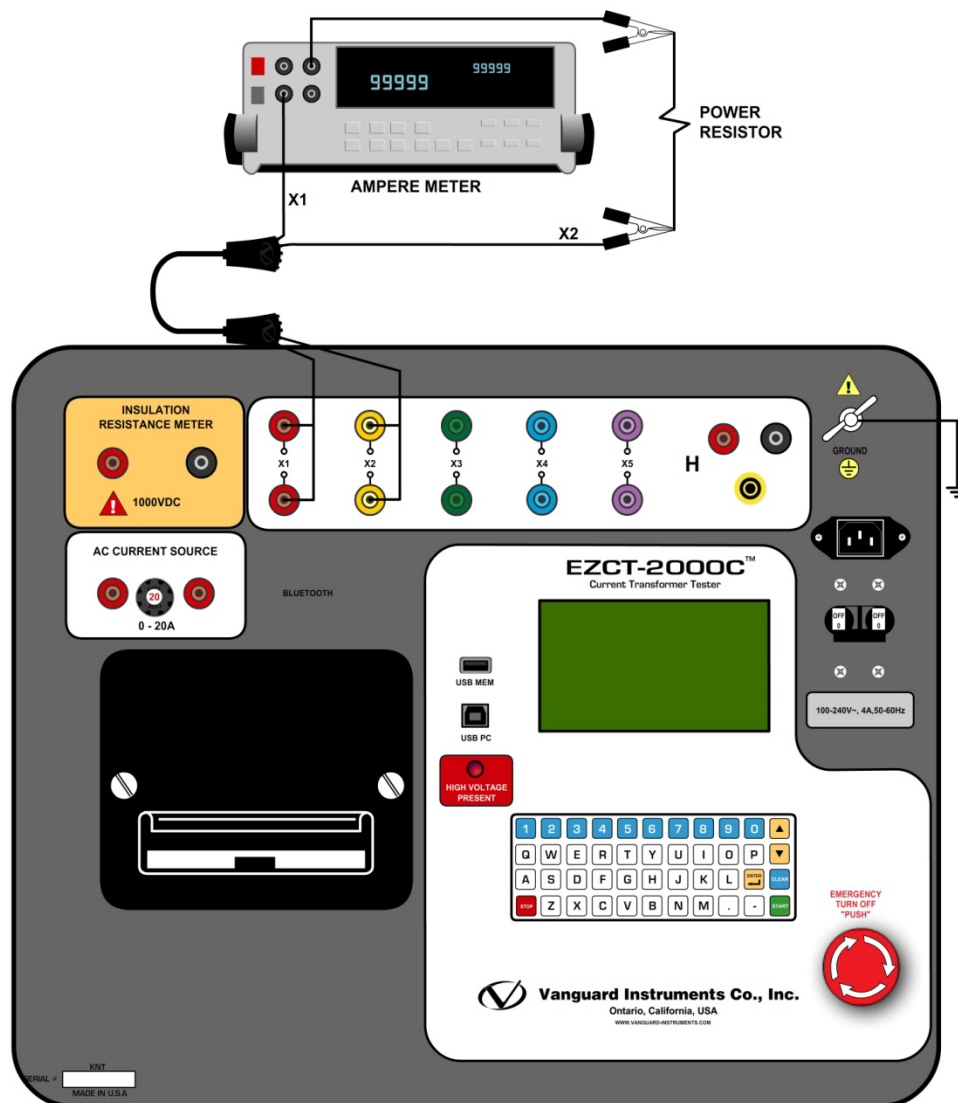

Figure 27. EZCT-2000C I_x Verification Test Connections
- Connect the X cables to a power resistor and an RMS ampere meter as shown in Figure 27.